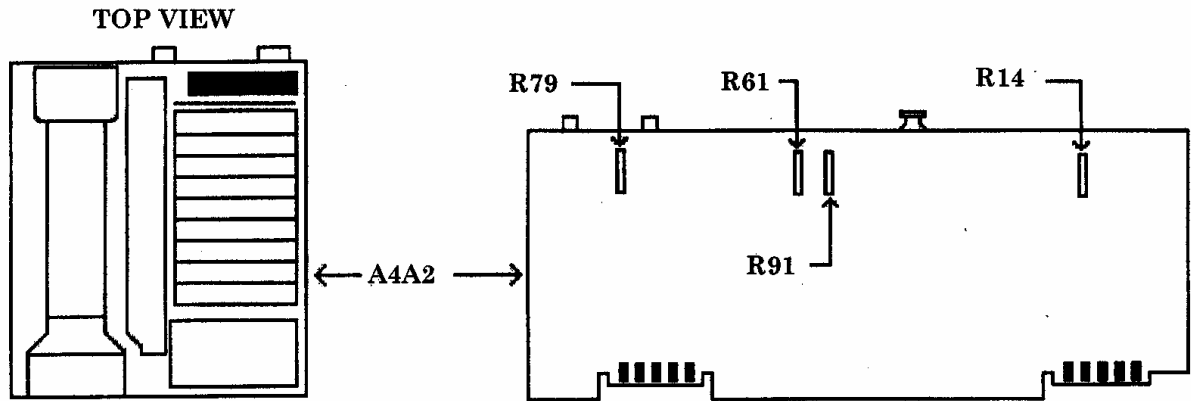
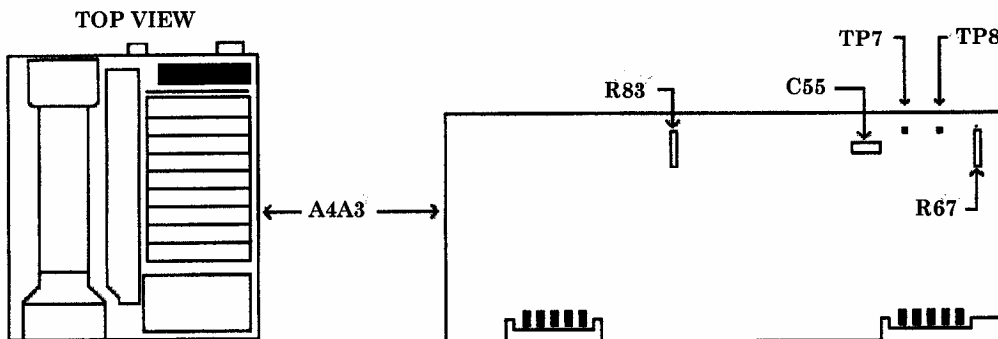

Figure 24. A4A2 board.
Figure 25. A4A3 board.
(34) Adjust A4A2R79 (fig. 24) for 0.0000 ± 0.0005 V dc
(35) Press **TI SCALE LOG** key.
(36) Connect **TI RF INPUT** to synthesizer/level generator **50Ω OUTPUT**.
(37) Set synthesizer/level generator for an output frequency of 7.6 MHz at an output level of 5 dBm.
(38) Adjust A4A3C55 (fig. 25) for a maximum multimeter indication.
- (39) Short A4A3TP7 to A4A3TP8 (fig. 25) and record multimeter indication.
- (40) Remove short from between A4A3TP7 and A4A3TP8.
- (41) Adjust A4A3R67 (fig. 25) for a multimeter indication the same as that recorded in (39) above ± 0.0005 V dc (R). If TI can not be adjusted to meet this tolerance then TI must be repaired.
- (42) Press TI **SCALE LIN** key.
- (43) Adjust synthesizer/level generator output level for a multimeter indication of 1.000 ± 0.002 V dc.
- (44) Press TI **SCALE LOG** key.
- (45) Decrease synthesizer/level generator output level by 50 dBm.
- (46) Adjust A4A2R91 (fig. 24) for a multimeter indication of 0.500 ± 0.001 V dc (R).
- (47) Increase synthesizer/level generator output level by 50 dBm.
- (48) Adjust A4A2R61 (fig. 24) for a multimeter indication of 1.000 ± 0.001 V dc (R). If TI can not be adjusted to meet this tolerance then TI must be repaired.
- (49) Press TI **SCALE LIN** key.
- (50) Multimeter should indicate 1.000 ± 0.020 V dc. If multimeter indication is out of tolerance then TI must be repaired.
- (51) Press TI **REFERENCE LEVEL, 0**, and **dBm** keys.
- (52) Adjust synthesizer/level generator output level for a multimeter indication of 1.000 ± 0.001 V dc.
- (53) Press TI keys as listed in (a) through (c) below:
- (54) Decrease synthesizer/level generator output level by 10 dBm.
- (55) Adjust A4A3R83 (fig. 25) for a multimeter indication of 1.000 ± 0.010 V dc. If multimeter indication is out of tolerance then TI must be repaired.
- (56) Press TI **REFERENCE LEVEL, 70**, and **-dBm** keys.
- (57) Decrease synthesizer/level generator output level by 10 dBm.
- (58) Adjust A4A2R14 (fig. 24) for a multimeter indication of 1.000 ± 0.010 V dc. If multimeter indication is out of tolerance then TI must be repaired.
- (59) Press TI **2-22 GHz** key.
- (60) Disconnect synthesizer/level generator **50 Ω OUTPUT** from TI **RF INPUT**.
- (61) Connect TI **CAL OUTPUT** to TI **RF INPUT**.
- (62) Press TI keys as listed in (a) through (g) below: